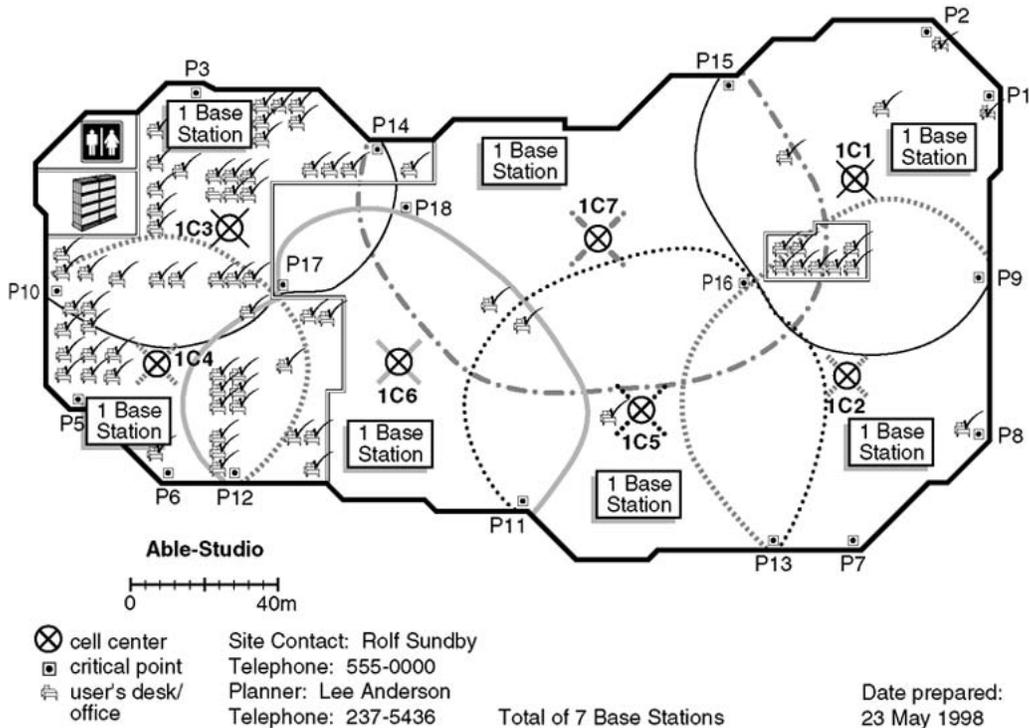

Figure 69: Example of a completed floor plan
2. a clean floor plan with all the information, as shown in Figure 69: Example of a completed floor plan on page 120;